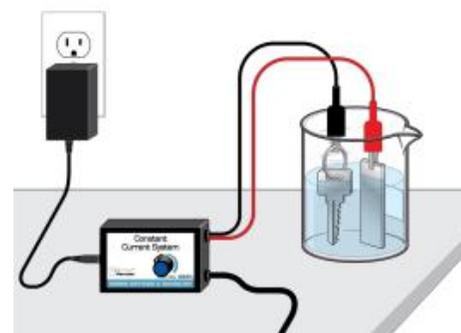

Figure 1
- 5) Fill a 250 mL beaker about 3/4 full with the electrolyte solution. Use an Electrode Support to suspend the pH Sensor on the Stir Station, as shown in Figure 1. Position the pH Sensor so that its tip is immersed in the HCl solution but is not struck by the stirring bar. Gently stir the beaker of acid solution.
- 7) Gently turn the dial of the Constant Current System counterclockwise to confirm that it is in the minimum current position. Clip the wire handle on the key and the copper strip to the proper leads (See Figure 1). Important: You will not place the electrodes in the cell until Step 10.